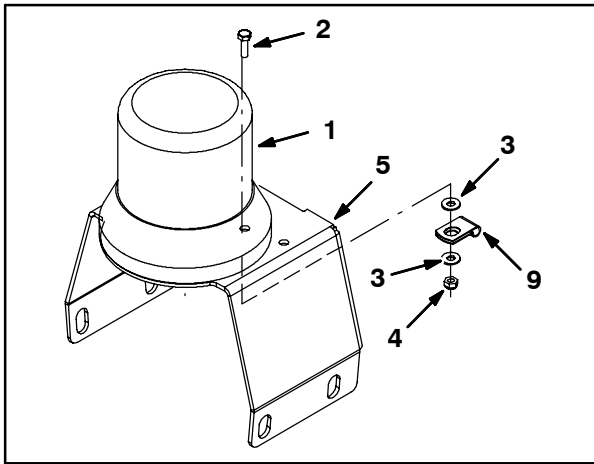

FIG. 2
- Route the wires from the lamp (1) through one cable clamp (9) and use a hex screw (2), two flat washers (3), and hex nut (4) to install the cable clamp underneath the lamp support bracket (5) and completely secure the lamp to the light support bracket. Refer to Fig. 2.